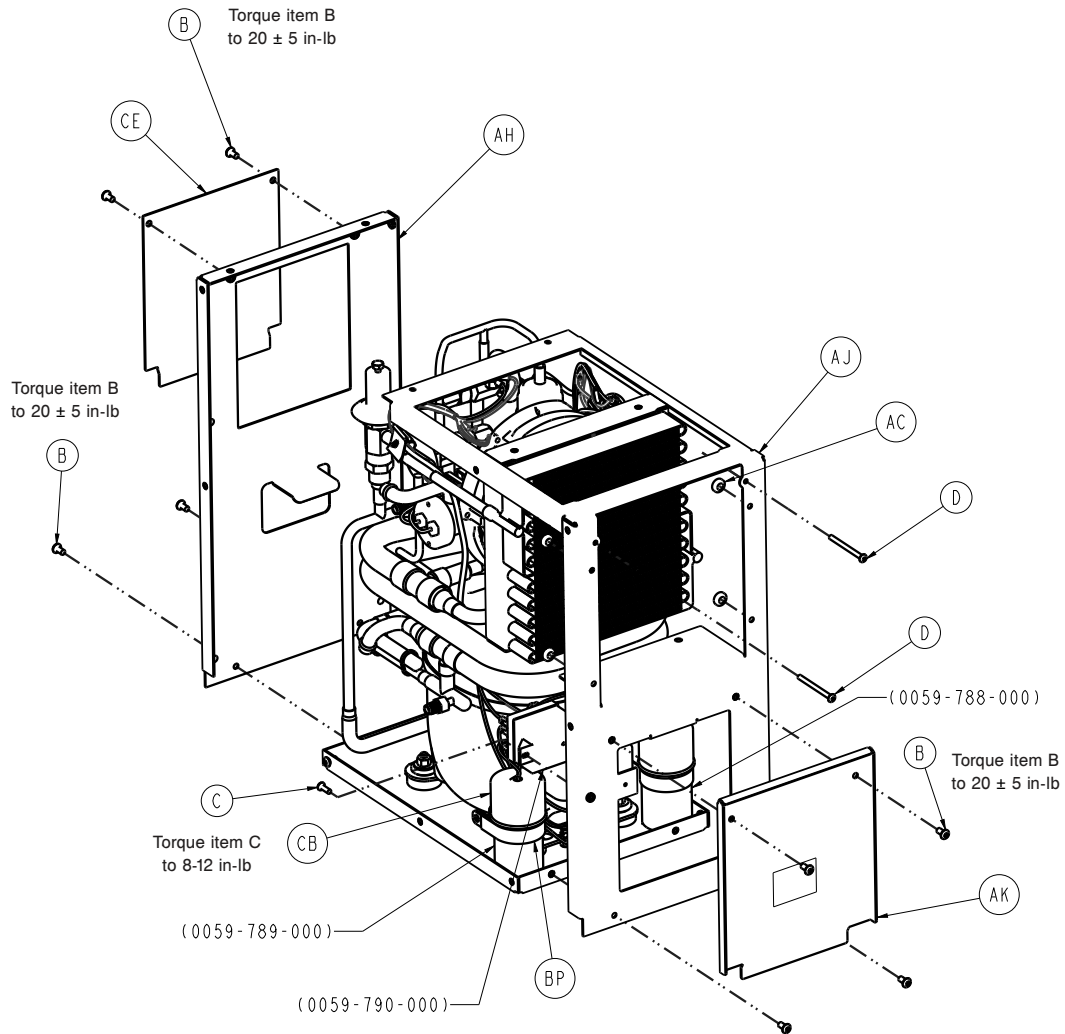

Figure 26: Access panel
- Using T25 torx, remove and save the two screws that secure the access panel (CE) (Figure 26 on page 39).